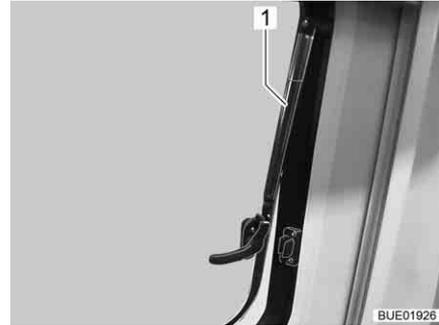

Fig. 12 Hinged window with automatic hinges, open
- Open hinged window half up to the required position. Allow the hinged window to engage automatically with the automatic hinge (Fig. 12,1).